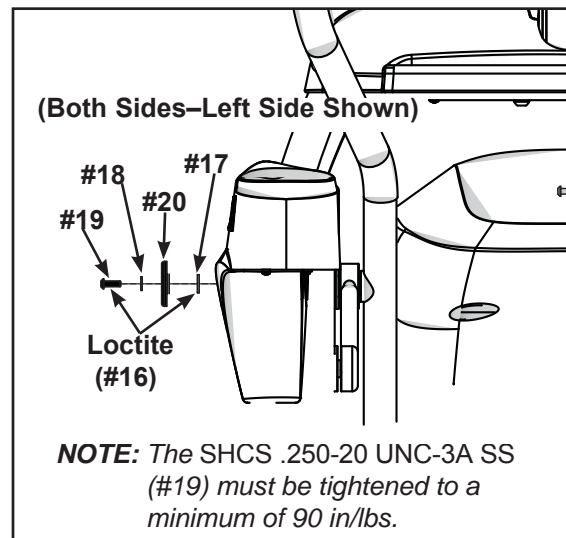

Figure 11 (750AT)
- B. Apply loctite (#16) to threads inside the arm and both screws removed in step 14B. See Figure 11.
- E. Locate left linkage rod, left handle assembly, **linkage rod cap 2.00 OD (#20)**, **flange spacer (#17)**, **SHCS .250-20 UNC-3A SS (#19)**, and **flat washer .281 ID x .500 OD x .062 T (#18)**. See Figure 11.
- G. Using a 3/16" Allen wrench (#7), secure linkage rod to handle assembly with **linkage rod cap 2.00 OD (#20)**, **flange spacer (#17)**, **SHCS .250-20 UNC-3A SS (#19)** and **flat washer, .281 ID x .500 OD x .062 T (#18)** as shown in Figure 11. **NOTE: The SHCS .250-20 UNC-3A SS (#19) must be tightened to a minimum of 90 in/lbs.**
- B. Apply loctite (#16) to threads inside the arm and screws removed in step 14B. See Figure 11.
- E. Locate right linkage rod, right handle assembly, **linkage rod cap 2.00 OD (#20)**, **flange spacer (#17)**, **SHCS .250-20 UNC-3A SS (#19)**, and **flat washer .281 ID x .500 OD x .062 T (#18)**. See Figure 11.
- G. Secure linkage rod to handle assembly with **linkage rod cap 2.00 OD (#20)**, **flange spacer (#17)**, **SHCS .250-20 UNC-3A SS (#19)** and **flat washer .281 ID x .500 OD x .062 T (#18)** as shown in Figure 11. **NOTE: The SHCS .250-20 UNC-3A SS (#19) must be tightened to a minimum of 90 in/lbs.**